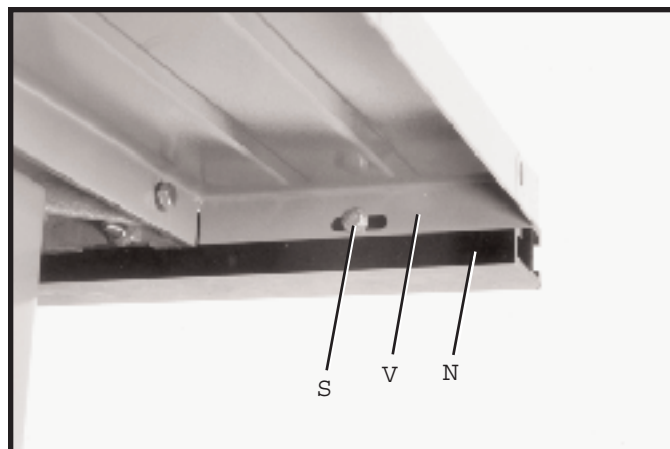

Fig. 36
23. Fasten the guide rail (N) Fig. 36, to extension wing (V) by threading 1/4-20 x 5/8 inch-long screw (S) Fig. 36, with flat washer through slotted hole in the front of extension wing (V), and into threaded hole in guide rail (N) as shown.